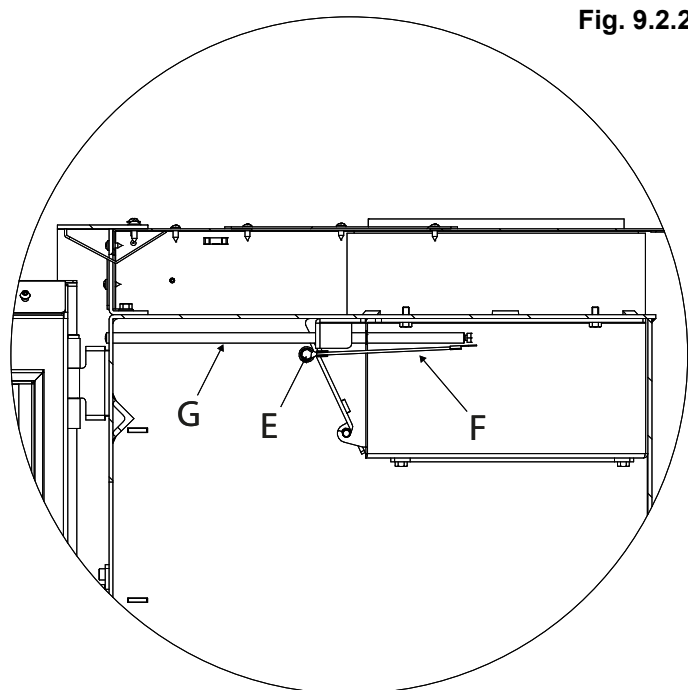

Fig. 9.2.2
- Loosen the screw E in order to free the steel cable F and remove it together with the butterfly adjustment rod G (Fig. 9.2.2)